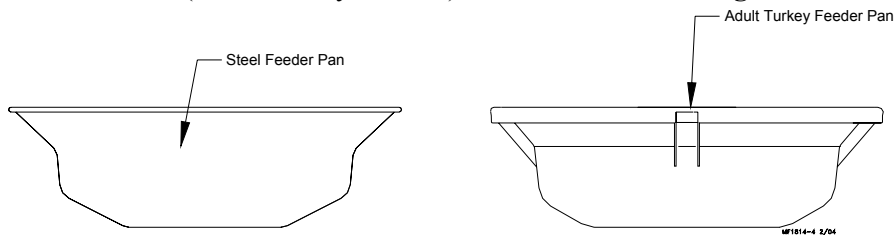

Figure 16. Feeder Pans
2. Determine which Feeder Pan (Adult Turkey or Steel) is to be installed, **see figure 16**.